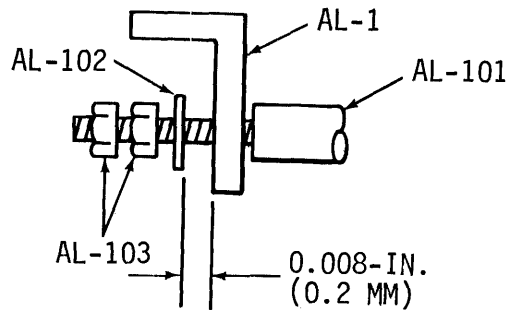

Figure 5-19. RIBBON FEED PLATE AND GUIDE BAR (LEFT SIDE)
a. Ribbon Feed Bar - Left Side (Fig. 5-19)